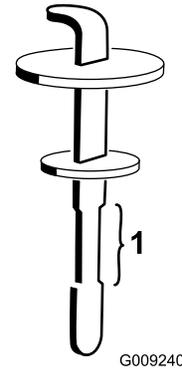

Figure 134
5. Remove the dipstick from the filler neck and wipe it with a clean rag. Insert the dipstick into the filler neck, then remove it and check the fluid level (Figure 134).